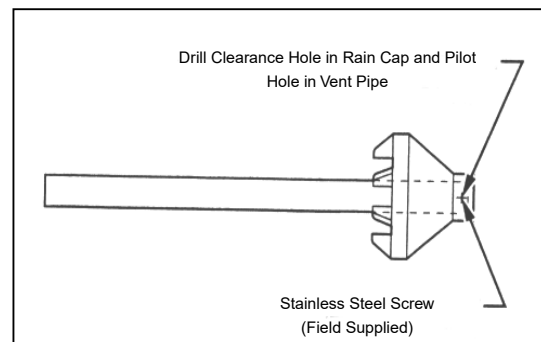

Fig.7-14 Rain Cap to Vent Pipe Alternate Assembly
5. Secure assembly to roof structure as shown in Fig.7-14 using field supplied metal strapping or equivalent support material.